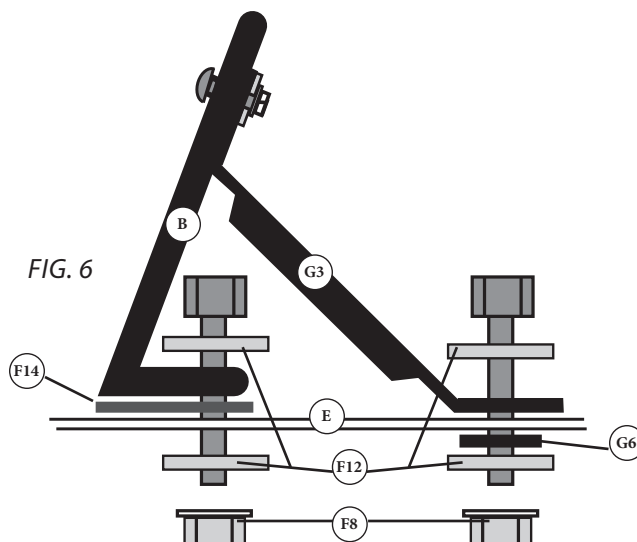

FIG. 6
Secure the Strut (G3) to the Lid (E) with a Hex Bolt (F6), two Flat Washers (F12), a Rubber Washer (G6) and a Whiz-Lock Nut (F8) as shown in [FIG 6].